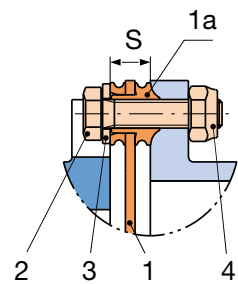

Fig. 113 Detail „X“
- Screw the disk packs (1, Fig. 113) over lightly-oiled hexagon head screws (2), washers (3) and hexagon nuts (4) alternately with the sleeve and the hubs.
- The generation of pre-tension force on the disk pack (1) generally takes place* via the hexagon nut (4). The disk pack (1) must not be distorted when applying the pre-tension force (secure screw (2) against turning).
- The hexagon nuts (4) or hexagon head screws (2) must be tightened crosswise and in several sequences to the full tightening torque M_a . For the appropriate tightening torques for each sequence, please see the appropriate Installation and Operational Instructions.
The radius of the collar bushings (Part 1a, Fig. 113, Detail "X") must lie in the grooves of hubs and sleeves.